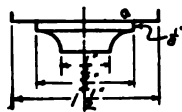
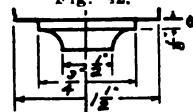

Fig. 42.
Fig. 43.
(6) In dimensioning a symmetrical object, do not place dimensions on the center line as in Fig. 42. Notice how space (a) is dimensioned in Fig. 43.